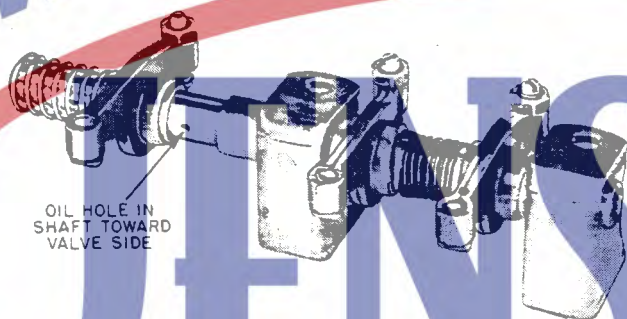

Figure 6 - Oil Hole in Shaft
- Proper assembly of rocker arms with relation to the oil hole in the shaft is shown in Figure 6. Improper lubrication will result, if the drilled hole is reversed.